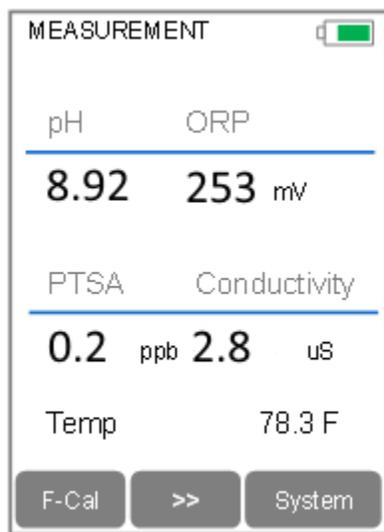

Figure 4
3) A screen similar to Figure 4 appears. The unit is actively reading and displaying both PTSA and Conductivity. The values will be very low if DI water is used; The conductivity value is not critical but PTSA value should be near zero. A low non-zero value (e.g. 0.2 or 0.4, etc.) is not problematic.